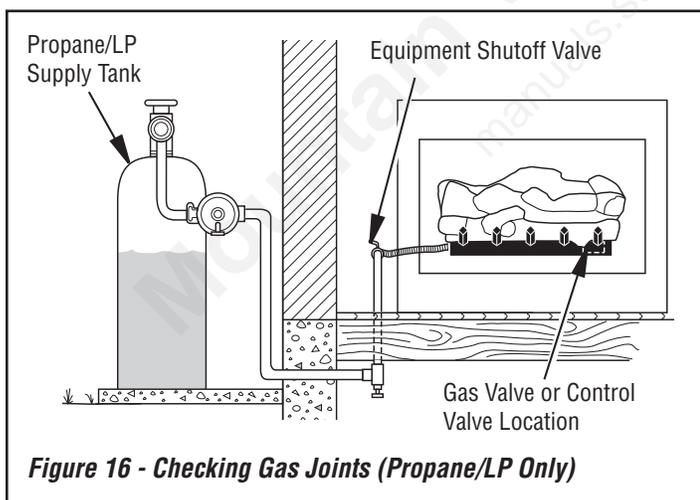

Figure 16 - Checking Gas Joints (Propane/LP Only)
3. Check all joints from gas meter to equipment shutoff valve for natural gas or propane/LP supply to equipment shutoff valve for propane/LP (see **Figure 16 or 17**). Apply noncorrosive leak detection fluid to all joints. Bubbles forming show a leak.
4. Check all joints from equipment shutoff valve (see **Figure 16 or 17**). Apply noncorrosive leak detection fluid to all joints. Bubbles forming show a leak.